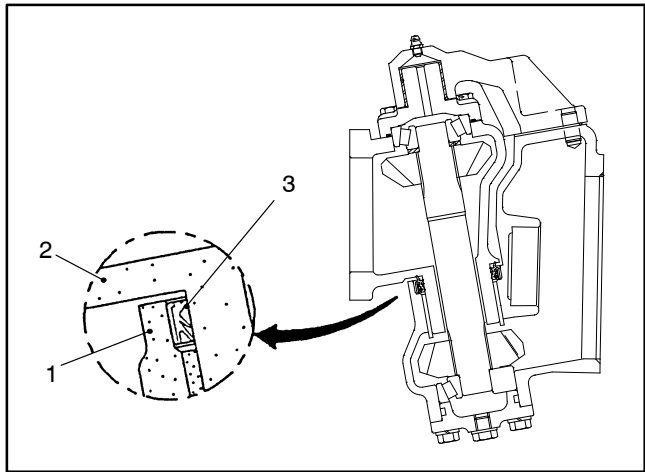

Figure 23
1. Coat new shaft seal with grease and install in axle case as shown (Fig. 23).